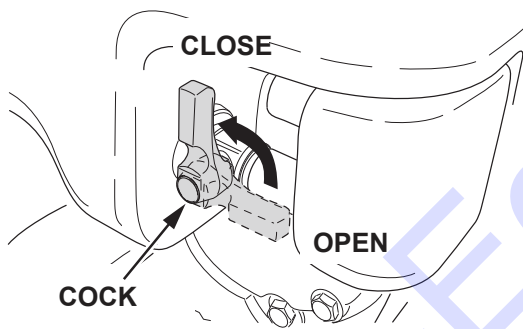

Figure 20. Water Tank Cock (Close)
2. When stopping sprinkling work, close the cock of water tank (Figure 20).